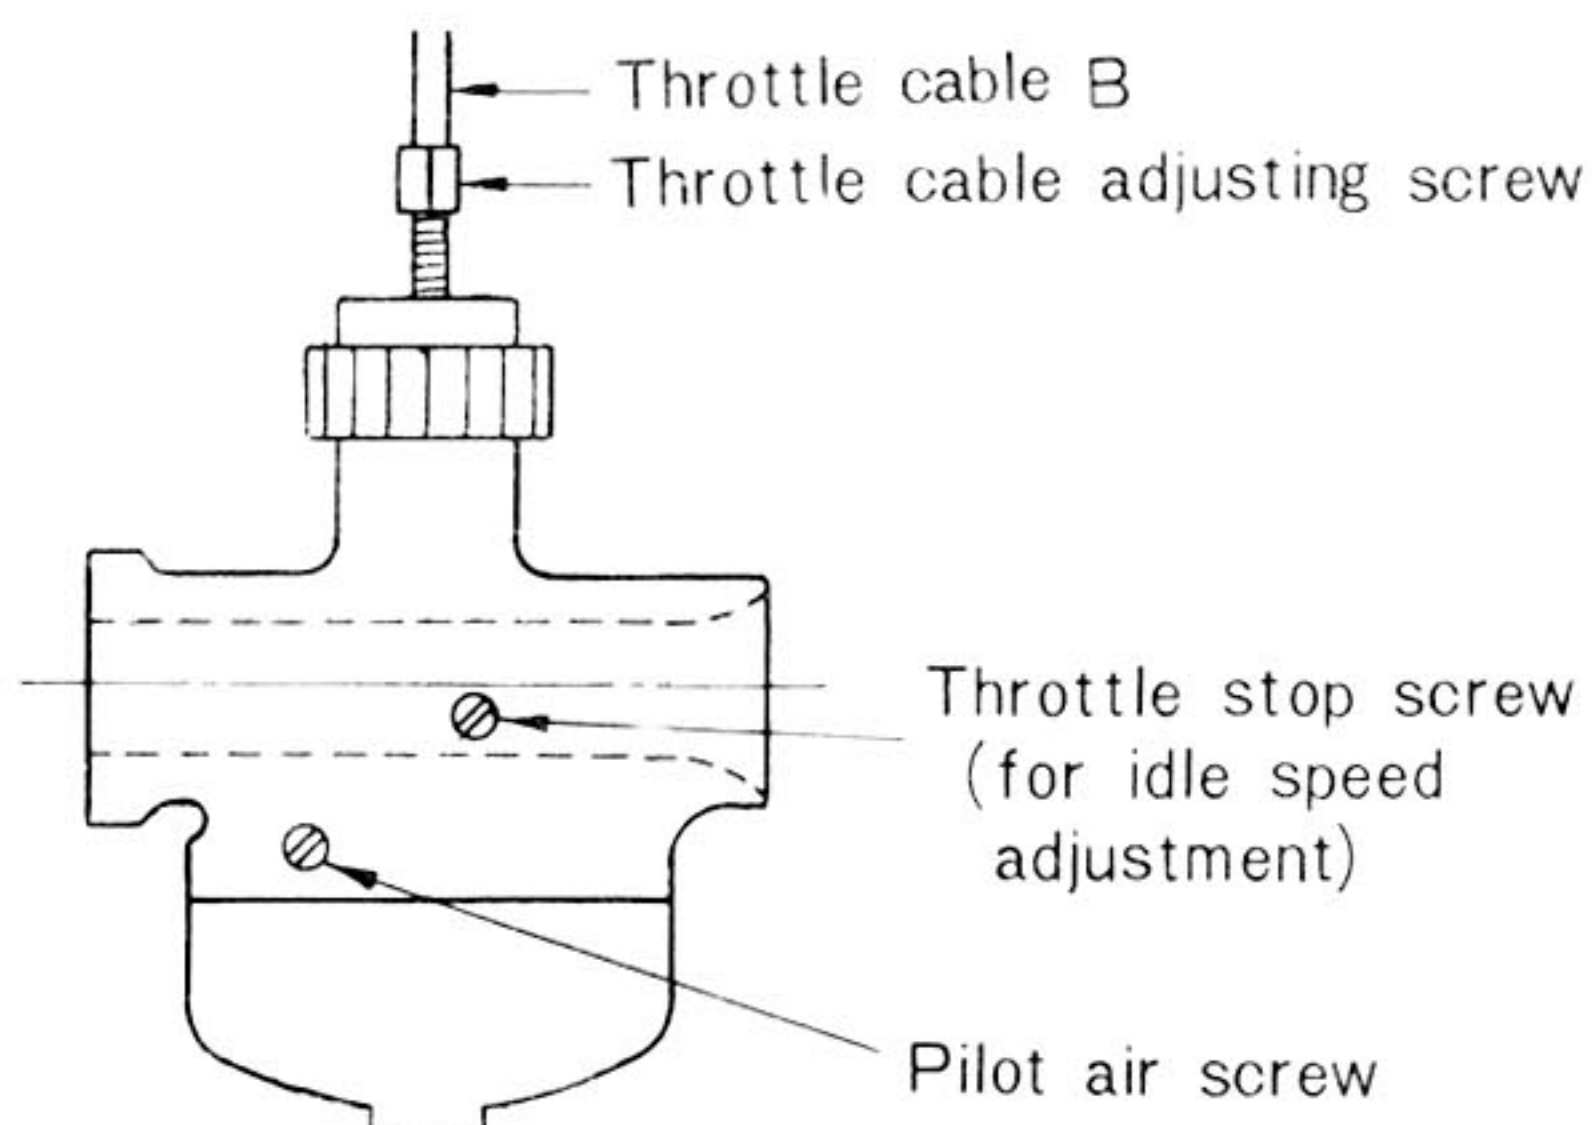

Fig. 2-3-2
- (1) Start the engine and warm it up, then set the idle speed between 1,050 rpm and 1,200 rpm.
- (2) Adjust the throttle valves so that they lift simultaneously.
- a. Remove all slack from the throttle cables B. Adjust the throttle cables B with the throttle cable adjusting screw. (Fig. 2-3-2)